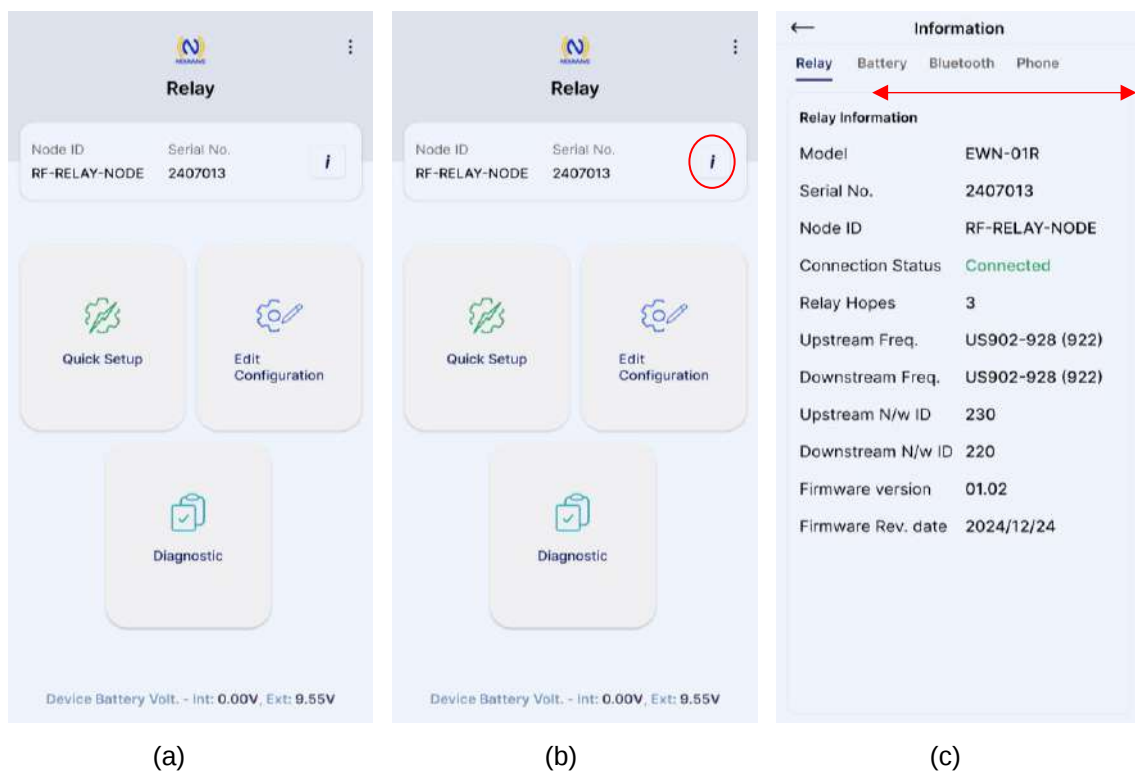

Figure 5-9
- It will take you to the home screen of the Relay node, as shown in Figure 5-9 (a). Clicking on the 'i' button (Figure 5-9 (b)) will open the information window. Within this window, you can scroll to view information about the Relay, Battery, Bluetooth, and the Phone (Figure 5-9(c)).